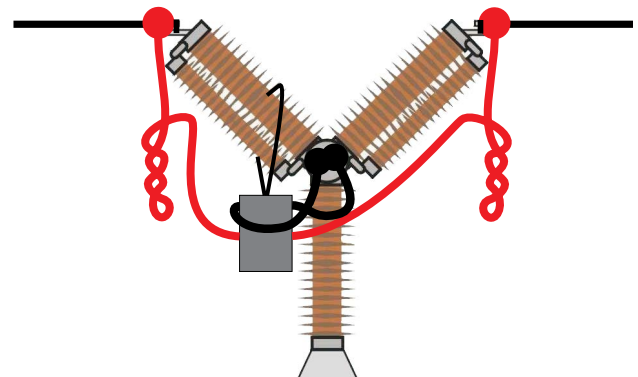

Fig 5.2.2 By twisting the current cables you can reduce disturbances by minimizing the magnetic window created by the cable loops and the interrupter.
- 4] By twisting the cables as shown in figure 5.2.2 you can reduce disturbances by minimizing the magnetic window created by the cable loops and the interrupter.